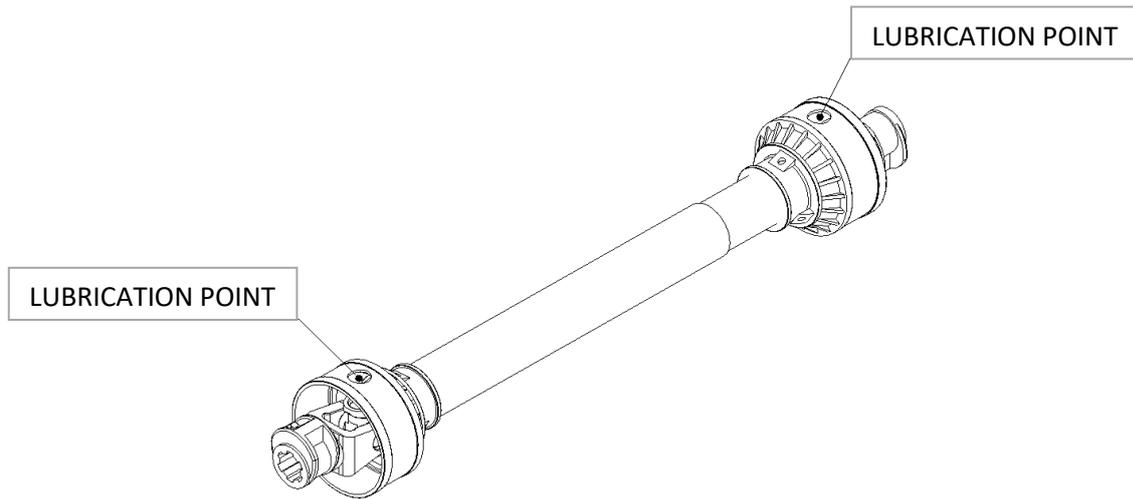

Figure 8.2 - Example of a transmission cardan shaft
- **Cardan shaft:** The cardan shaft (*Figure 8.2*) is one of the components you should check every day you work on the machine and, in this particular case, lubricate properly at the same intervals.